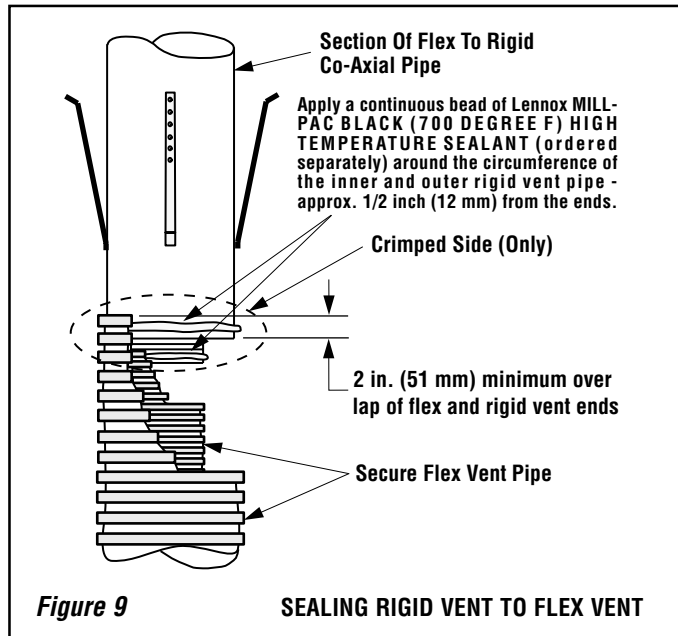

Figure 9 SEALING RIGID VENT TO FLEX VENT
Step 15. From the attic, apply a continuous bead of **MILL-PAC BLACK (700°F) HIGH TEMPERATURE SEALANT** around the bottom end of the 4½ in. (114 mm) inner rigid vent pipe. Connect the 4½ in. (114 mm) flex vent to the 4½ in. (114 mm) rigid vent and secure with the small gear clamp provided in the flex vent kit. See **Figure 9**. Ensure that the flex vent overlaps the rigid pipe for at least 2 inches (51 mm).
Step 16. Apply a continuous bead of **MILL-PAC BLACK (700°F) HIGH TEMPERATURE SEALANT** around the bottom end of the 7½ in. (190.5 mm) outer rigid vent pipe. Connect the 7½ in. (190.5 mm) flex vent to the 7½ in. (190.5 mm) rigid vent and secure with the large gear clamp provided in the flex vent kit. See **Figure 9**. Ensure that the flex vent overlaps the rigid pipe for at least 2 inches (51 mm).